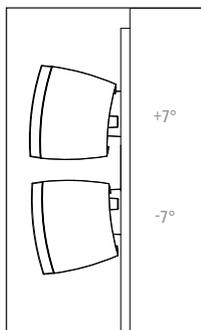

Fig. 10c
- Tilt the center speaker up or down to optimize clarity and intelligibility (Figs. 10c, 10d);
- Tilt left and right speakers slightly inward for better imaging (Figs. 10c, 10d);